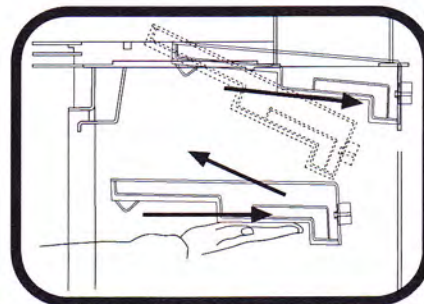

Fig. 10
- 5) To place the new baffle in its proper position, insert it into the firebox, in such a way that it rests on the support brackets installed specially for the baffle. Make sure that the baffle air pipe is inserted completely into the hole in the back of the firebox (Fig 10) and the bolts have gone through the holes to the outside of the firebox.